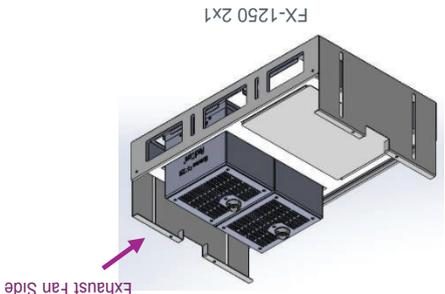

Figure 23.
- 4) For 1x1, 1x2 horizontal, and 2x1 vertical configurations, it is advised to place the emitters on the side closest to the exhaust fan. (Figure 22, & Figure 23.)